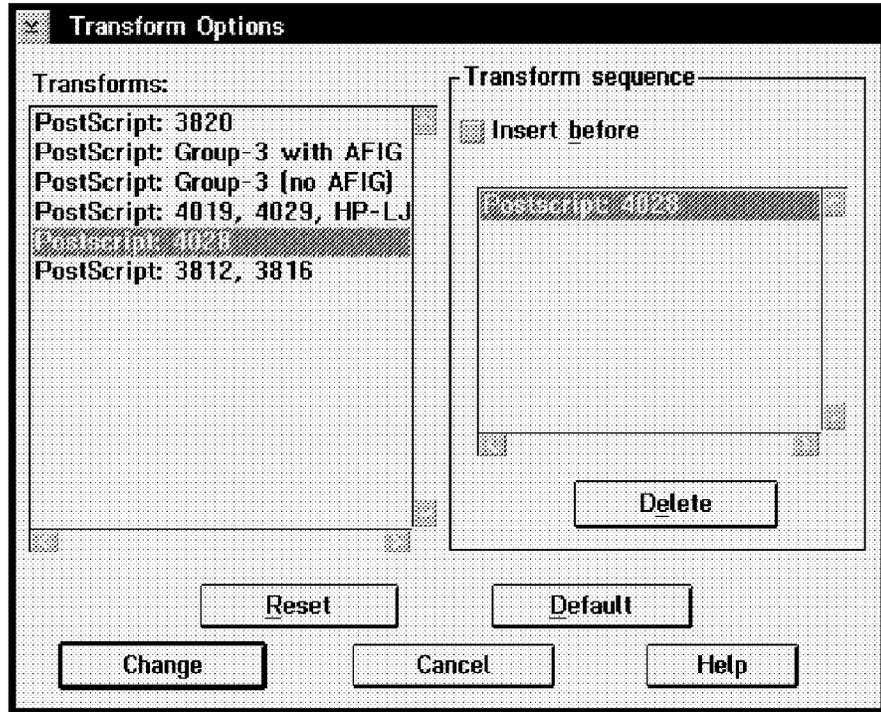

Figure 183. Transform Options Window
2. From the Profile pull-down menu, select **Change...**, and then select **Transform options...**. This will open the window shown in Figure 183 on page 244.
3. In the Transform Options window, double-click on the transform you'd like to use in the Transform list. The transform name will then appear in the Transform sequence list. For example, if you want to print PostScript documents on an IBM 4028 printer, double-click on the **PostScript: 4028** transform. Figure 183 shows the Transform Options windows after that selection was made.
When you install PSF/2, only the PostScript to AFP transforms shown in Figure 183 are shown when you open the Transform Options window. There are, however, other transforms provided with PSF/2, including ones which allow you to define and use your own options. The list of these transforms is shown in Table 21: